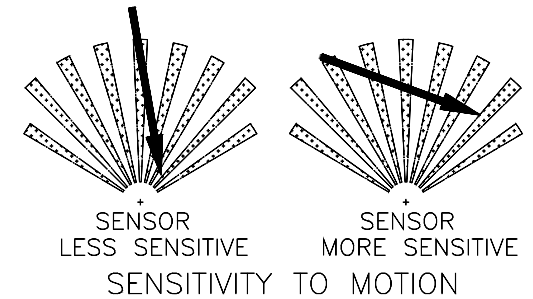

FIGURE 5b
3. Where possible, mount the detector so that the logical path of an intruder would cut across the fan pattern rather than directly towards the detector.(FIGURE 5b)